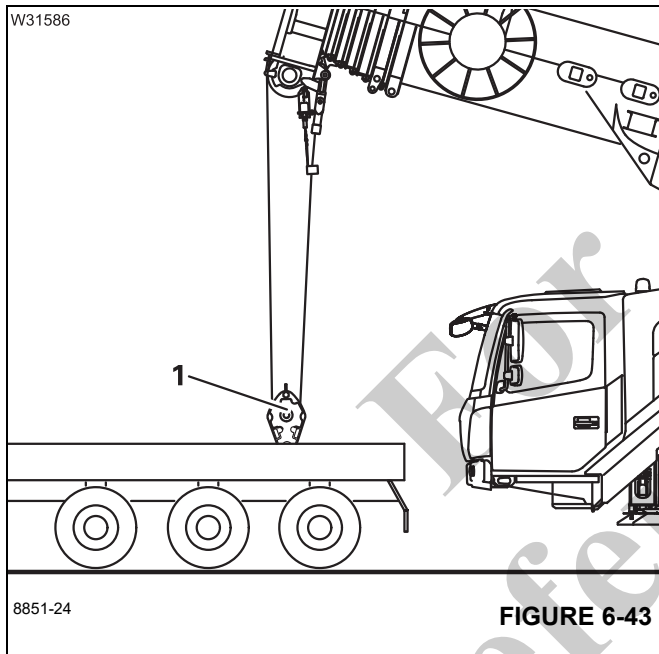

FIGURE 6-43
the boom head is directly above the hook block (1), (Figure 6-43).
- Reeve the hoist rope into the hook block (1), (Figure 6-43). Refer to *Reeving the Hoist Rope*, page 6-32.
- Lower the main boom and set the hook block (1), (Figure 6-43) down on the separate vehicle.